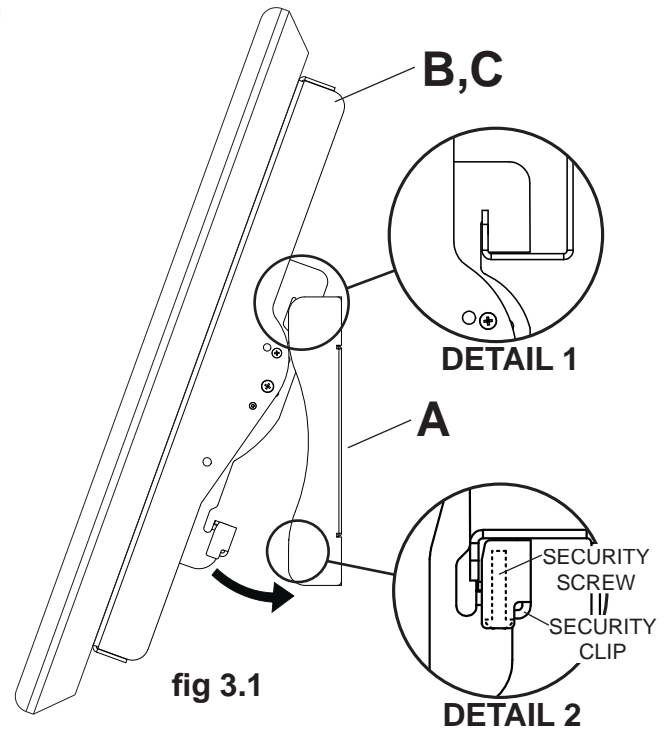

fig 3.1
Mounting Screen: Hook tilt brackets (B,C) onto wall plate (A) and swing screen in as shown in fig. 3.1. **NOTE:** If the security clip does not clear the bottom of the wall plate, loosen the security screw with allen wrench (L). Tilt bracket hooks must fully engage wall plate as shown in detail 1. Tighten security screw using allen wrench (L) until security clip sits firmly against bottom of wall plate. **NOTE:** Be sure security clip is secured to bottom of wall plate as shown in detail 2.